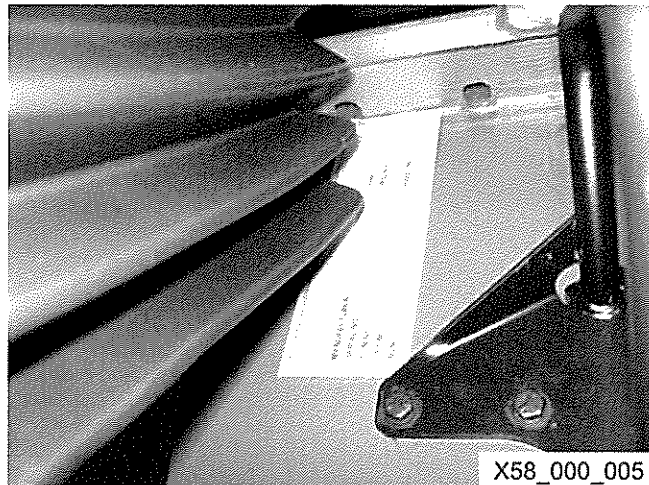

Fig 3 Asset plate
- 8 Refer to Fig 3. The asset plate can be found beneath the passenger's seat on the left-hand side.